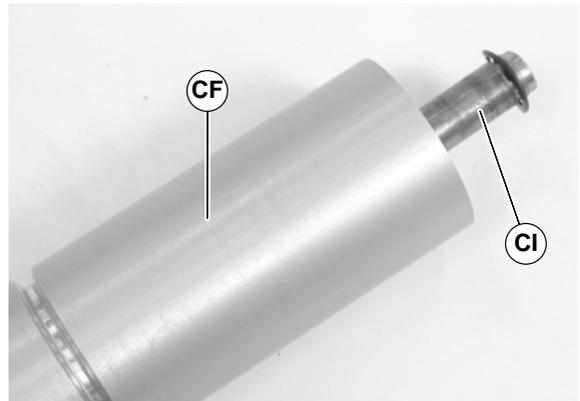

Figure 63
6. Slide the shaft assembly (CI of Figure 63) out of the pulley (CF).
- Slide the shaft assembly (CI of Figure 63) out of the pulley (CR).